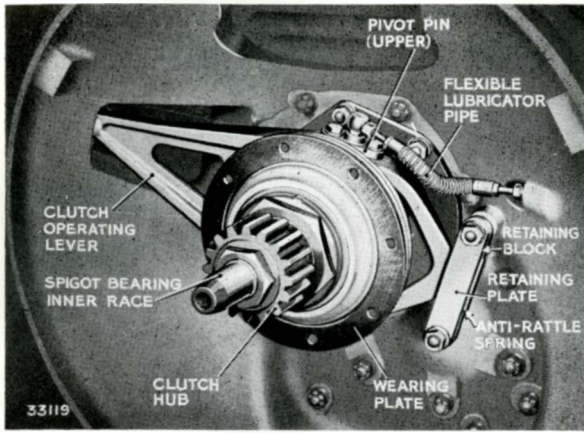

FIG. 10. THE WITHDRAWAL MECHANISM
1. Disconnect the flexible lubrication pipe shown in Figs. 10 and 11.
3. Remove the retaining plate and block shown in Fig. 10, release the clutch operating lever.